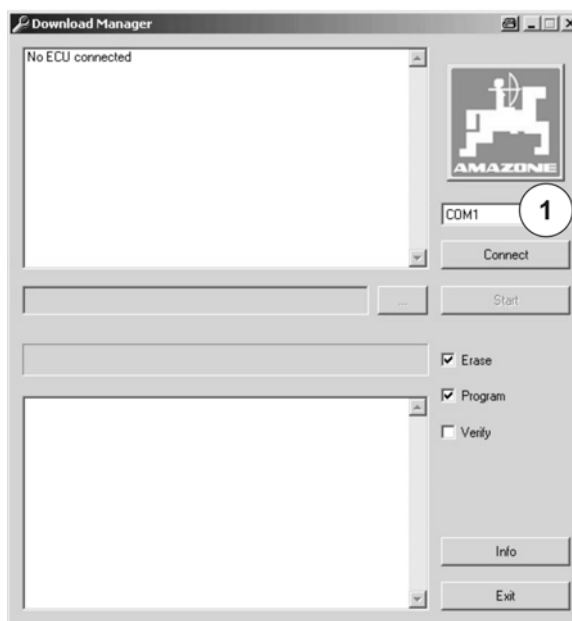

Fig. 4
- The interface (Fig. 4) appears on the PC.
4. To establish a connection to the **AMATRON⁺** system, select the correct serial interface (Fig. 4/1: here COM1).